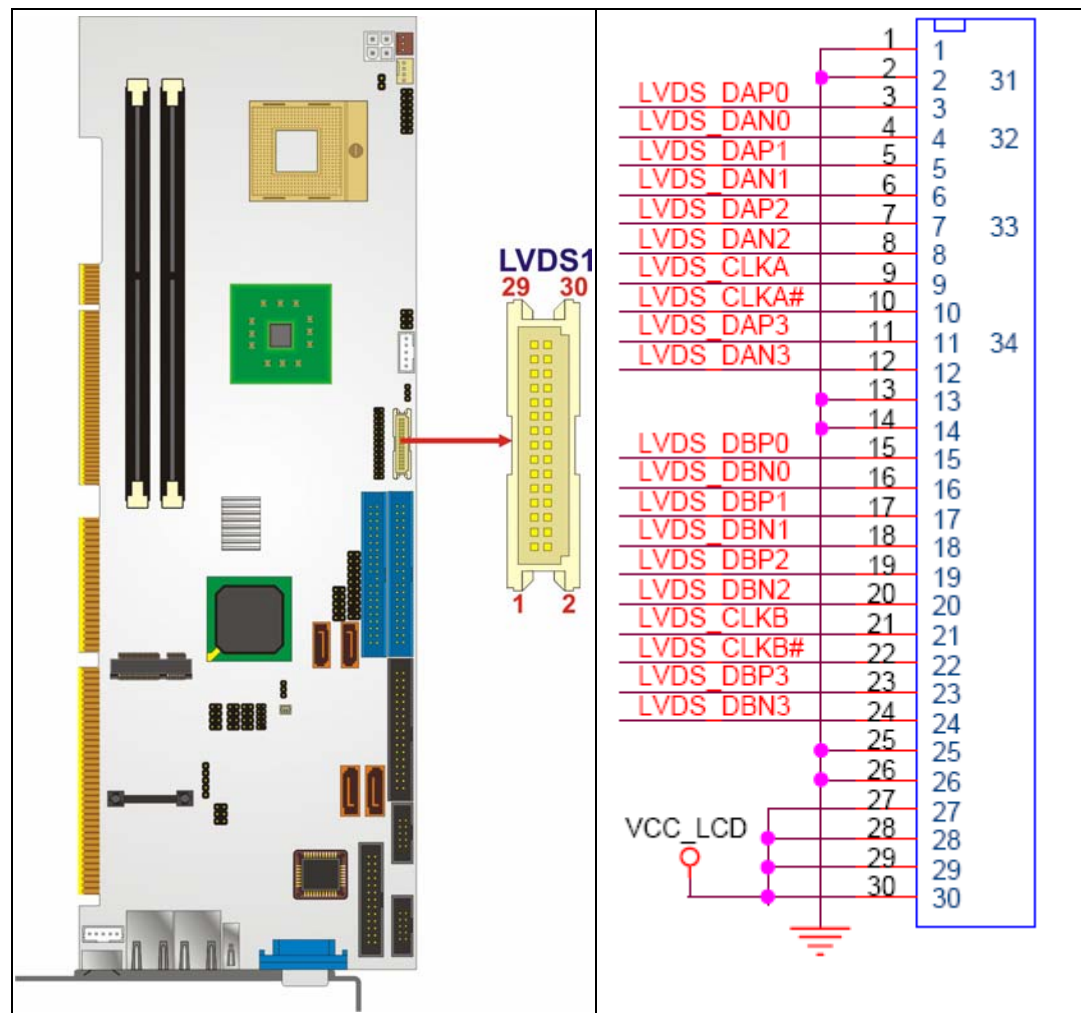

Figure 4-14: LVDS Connector Location
- CN Location:** See Figure 4-14